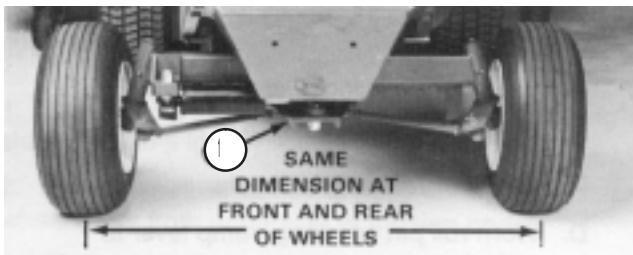

Figure 64
2. Loosen the jam nuts on both tie rods. Adjust both tie rods until center-to-center distance at front and back of rear wheels is the same (Fig. 64).